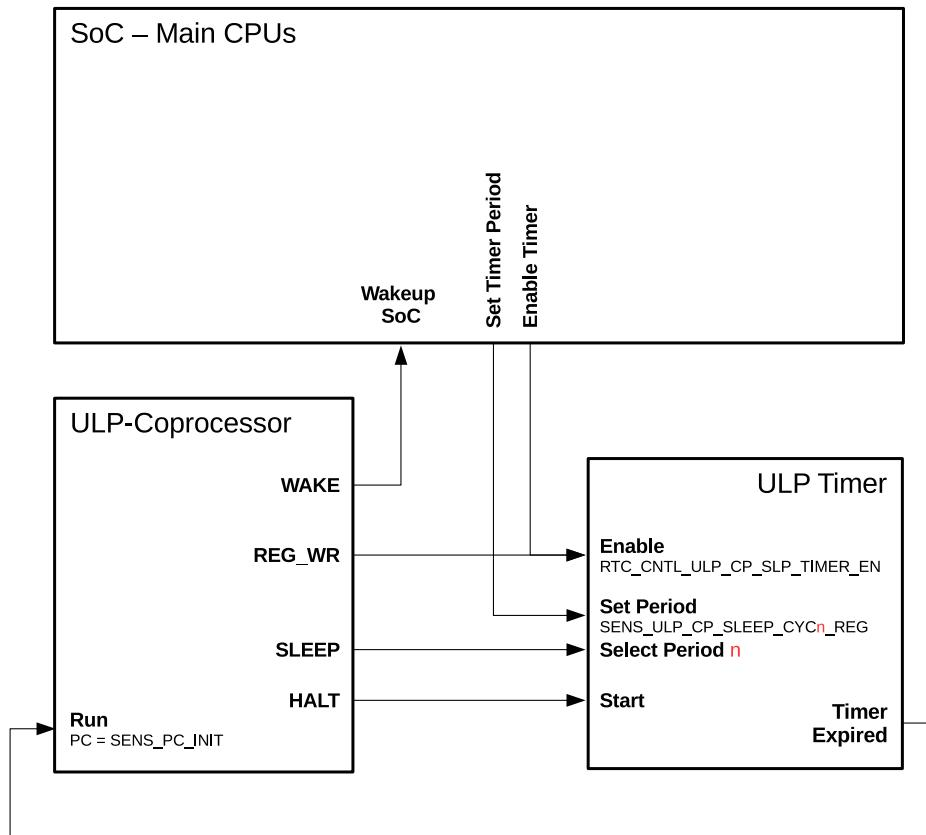

Figure 30-19. Control of ULP Program Execution
The ULP coprocessor puts itself into sleep mode by executing the HALT instruction. This also triggers the ULP timer to start counting RTC_SLOW_CLK ticks which, by default, originate from an internal 150 kHz RC oscillator. Once the timer expires, the ULP coprocessor is powered up and runs a program with the program counter (PC) which is stored in register SENS_PC_INIT. The relationship between the described signals and registers is shown in Figure 30-19.